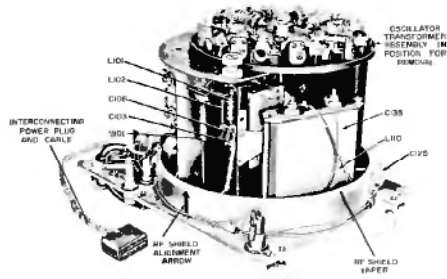

Figure 7-6. Bridge Assembly Components
- (1) Reassemble the turret assembly in reverse order of removal instructions. Observe the following additional instructions:
- (2) Brace front panel of hand switch knob to prevent movement. A block of wood between knob and surface of bench will suffice.
- (3) Replace descent roller with narrow end of tape upward.
- (4) Align hand switch shaft with flat in turret assembly.
- (5) Use a screwdriver to press descent roller into guide on the underside of turret casing.
12. REMOVAL OF OSCILLATOR TRANSFORMER ASSEMBLY. (See figures 7-6 and 7-7.)
(See figures 7-6, 7-7, 7-8 and 7-9.)